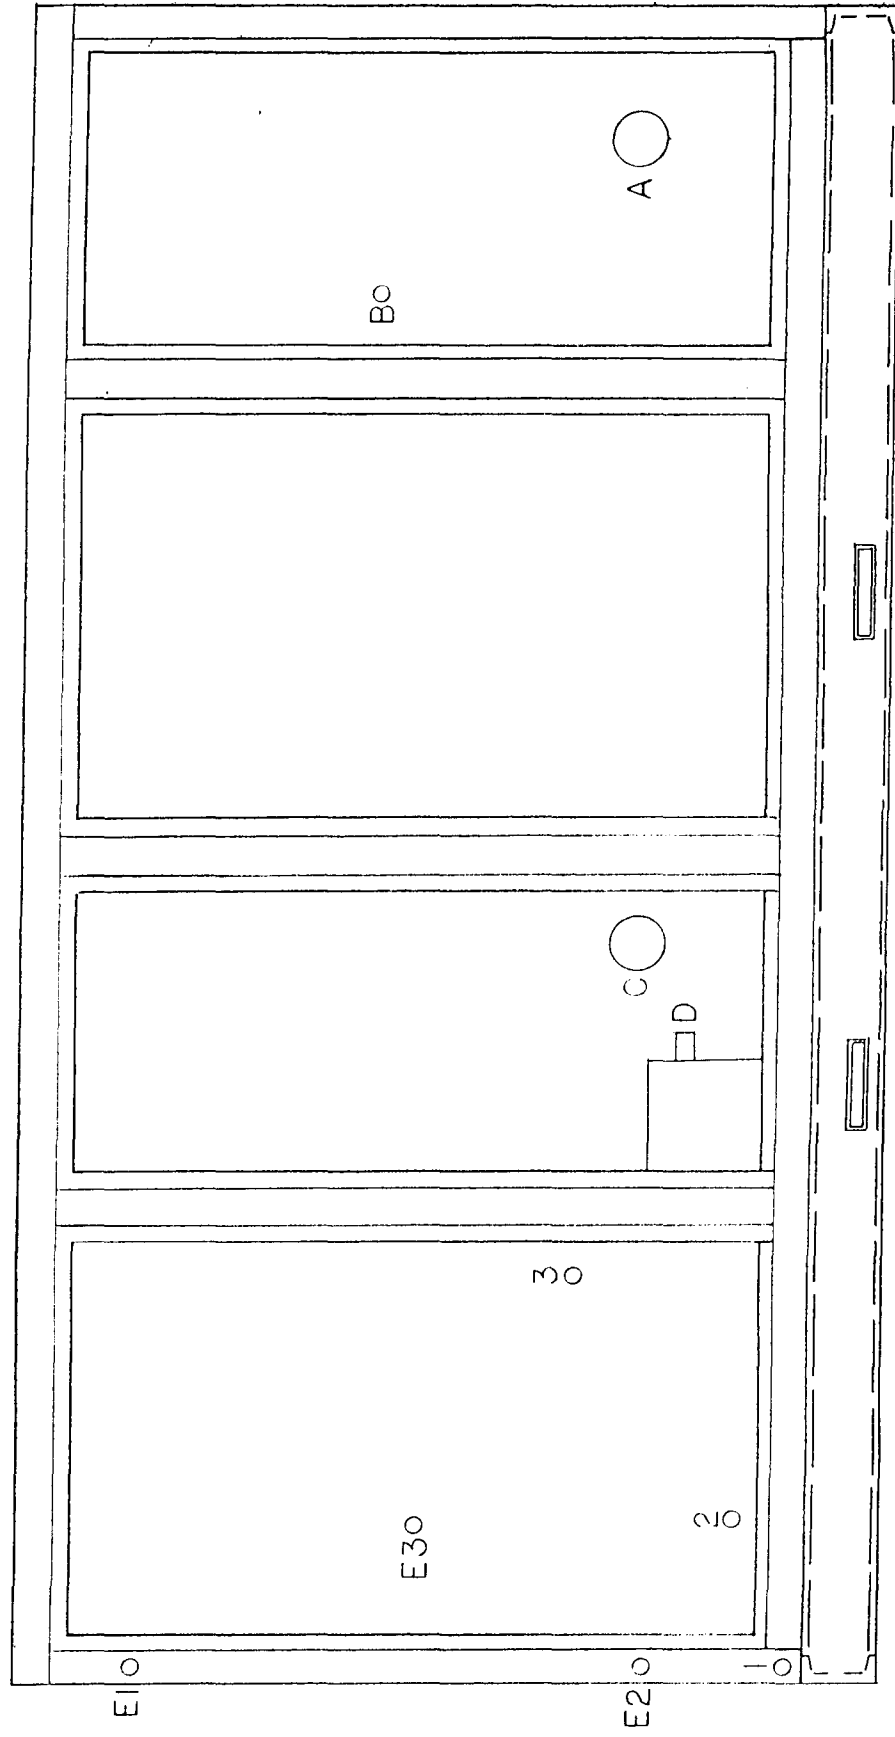

FIGURE 1. RESERVOIR SIDE SECTION
The air connections are numbered numerically - 1 through 3. Connect B-nuts on Reservoir side (Figure 1) and Sink side (Figure 2) to their respective fittings.
2. Connect B-nut for B on Sink side (Figure 2) to fitting at Reservoir side (Figure 1).
3. Remove two gaskets and check valve 505 from the carton. Attach one gasket and check valve at C on Sink side (Figure 2) flange. Connect other side of check valve and the other gasket to the flange C at Reservoir side (Figure 1) and secure with bolts, washers, and nuts.